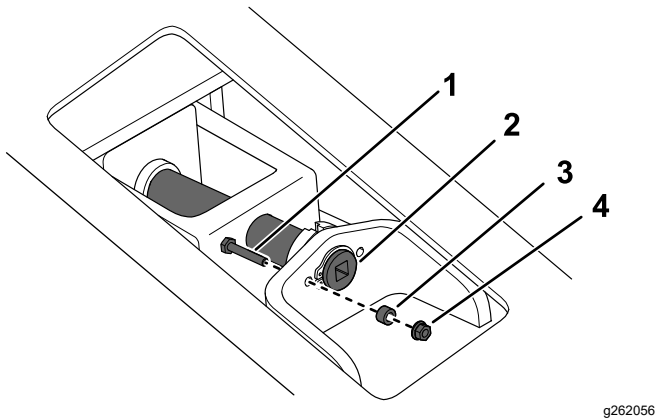
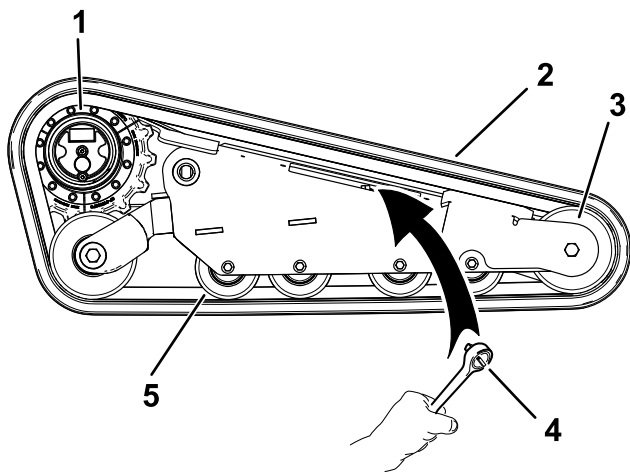

Figure 65
Figure 67
6. Remove the locking bolt, spacer, and nut (Figure 65).
8. Align the notch in the tension screw to the nearest locking-bolt hole and secure the screw with the locking bolt, spacer, and nut (Figure 65).
7. Using a 1/2-inch drive ratchet, release the drive tension by turning the tensioning screw clockwise (Figure 65 and Figure 67).
1. Wrap the new track around the front wheel (Figure 67).
2. Push the track under and between the road wheels and wrap it around the rear tension wheel (Figure 67).